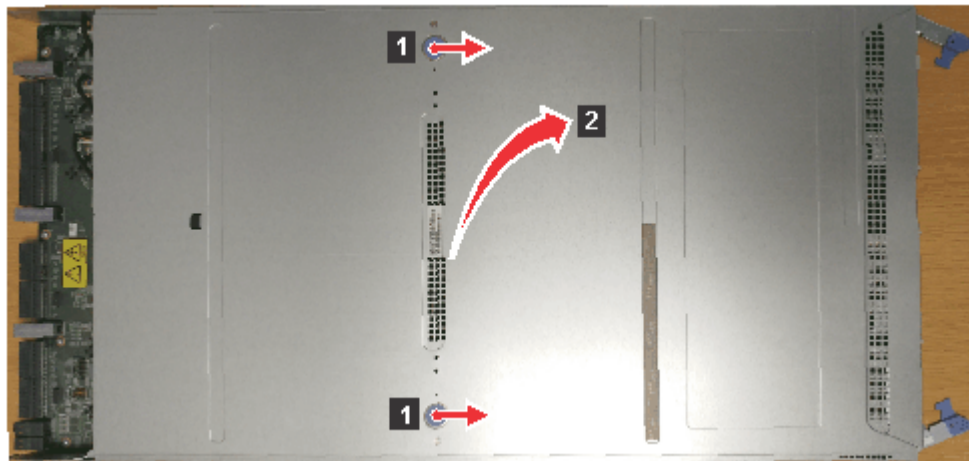

Figure 75. Removing the node canister cover
3. Open the cover of the node canister by depressing the recessed, blue touch points on the lid (1) and sliding the lid away from you (2), as shown in Figure 75 on page 116.